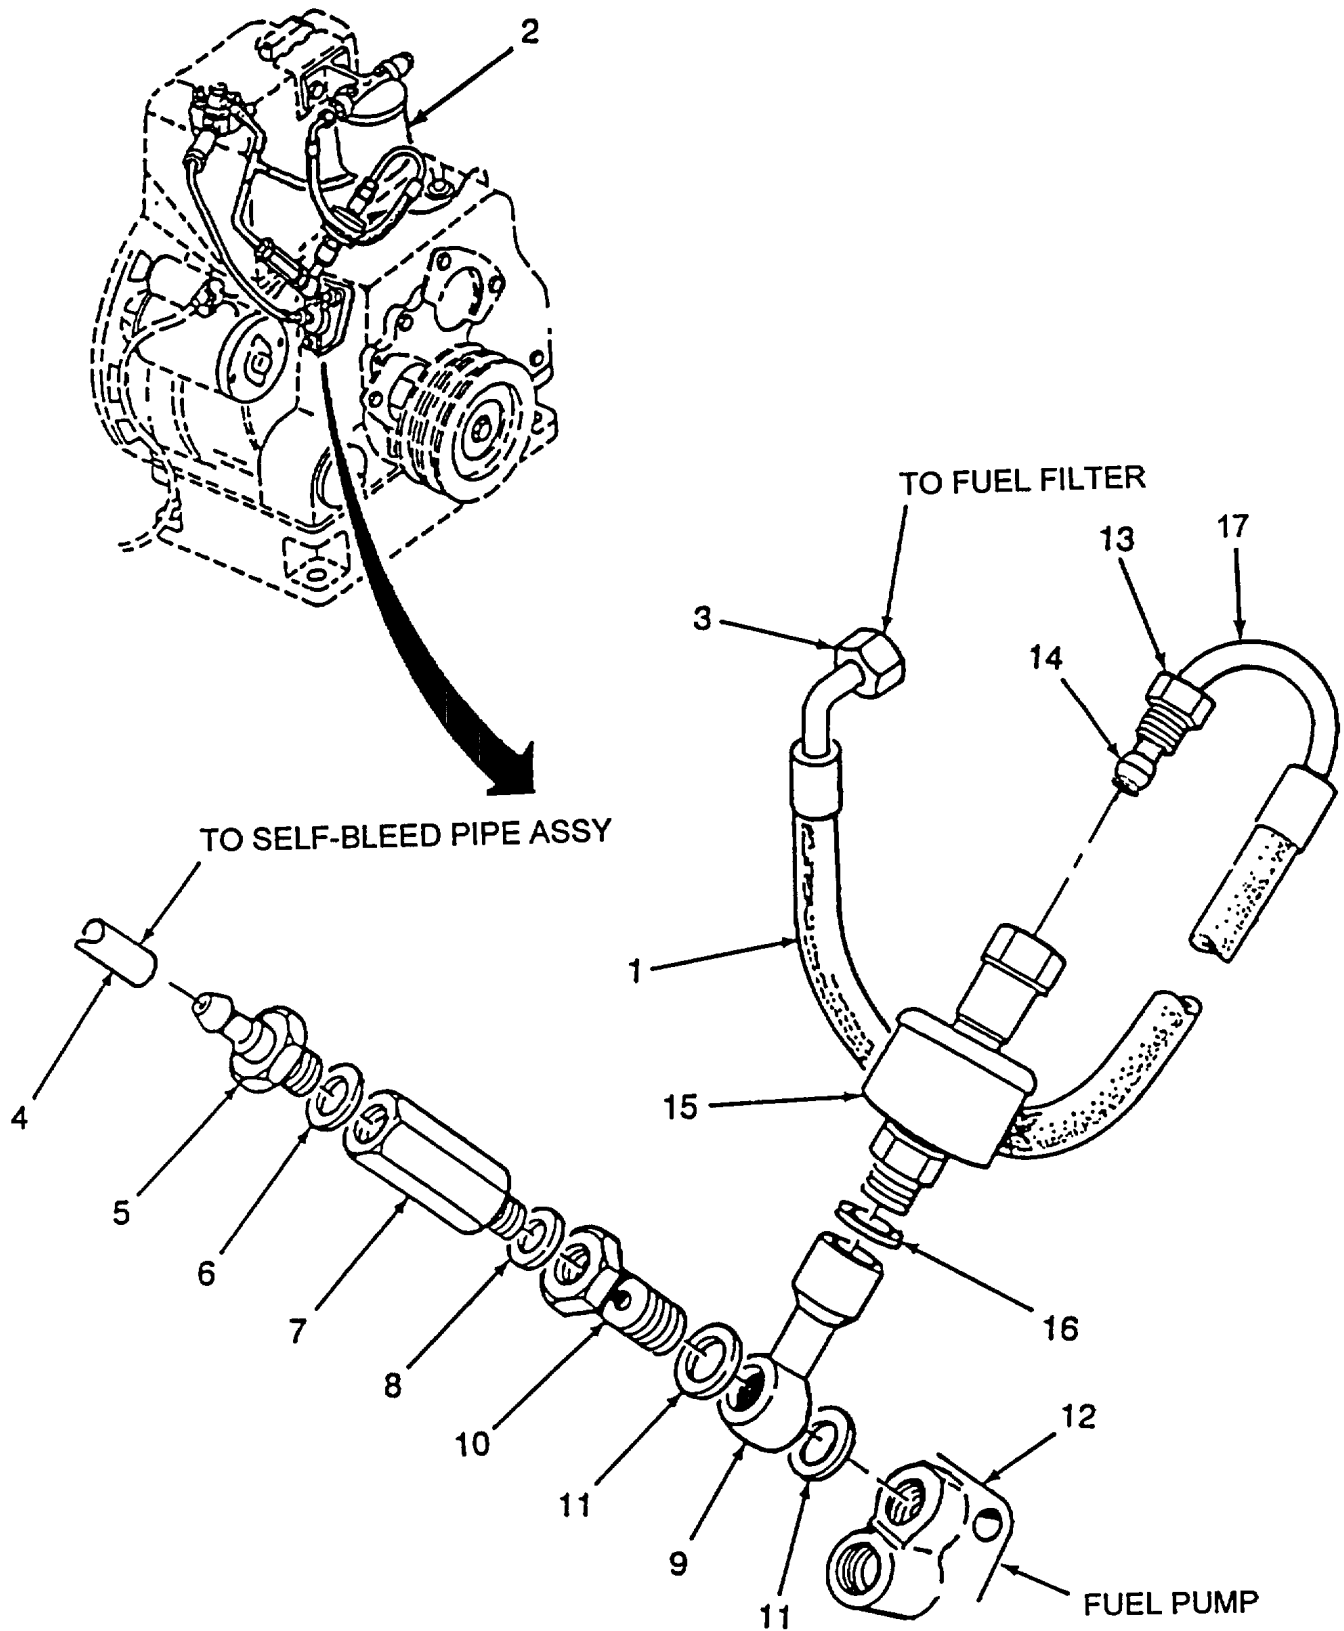

Figure 5-13. Fuel Control Solenoid Valve
(1) Removal. (Refer to Figure 5-13).
- (a) Remove flexible pipe (1) from fuel filter (2), by loosening and removing union nut (3) from fuel filter.
- (b) Remove self bleed pipe (4) from hose adapter (5).
- (c) Remove hose adapter (5), copper washer (6), non return valve (7), copper washer (8), from solenoid adapter (9) by removing bolt (10) from solenoid adapter (9).
- (d) Remove swivel union-plug (10) and two washers (11) from solenoid adapter (9) and fuel pump (12).
- (e) Remove union (13) and ferrule (14) from valve (15).
- (f) Remove valve (15) and copper washer (16) from solenoid adapter (9).
- (g) Tag and remove wires on solenoid valve (15).
(2) Repair.